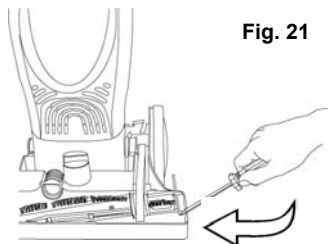

Fig. 21
7. Slide the flat head screw driver into the left side of the power head between the agitator and power head housing and lift. (Fig. 21)